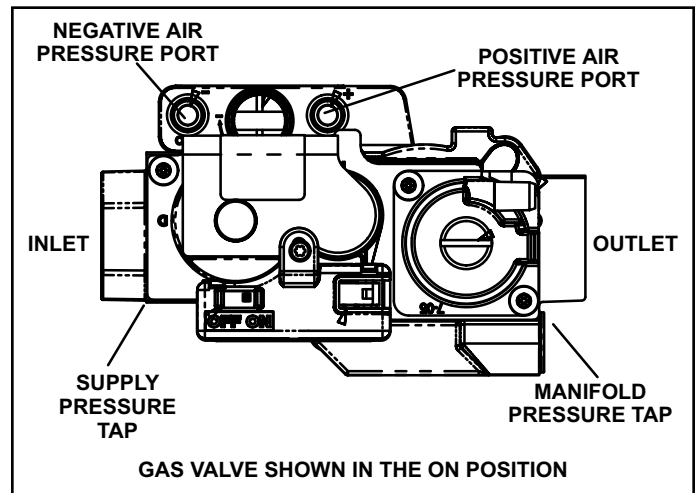

Figure 47. Gas Valve
6. Move gas valve switch to OFF. See Figure 47.
8. Move gas valve switch to ON. See Figure 47.
When testing supply gas pressure, connect test gauge to supply pressure tap on the gas valve. See Figure 47. Check gas line pressure with unit firing at maximum rate. Low pressure may result in erratic operation or underfire. High pressure can result in permanent damage to gas valve or overfire. See Table 25 for operating pressure at unit gas connection (line).